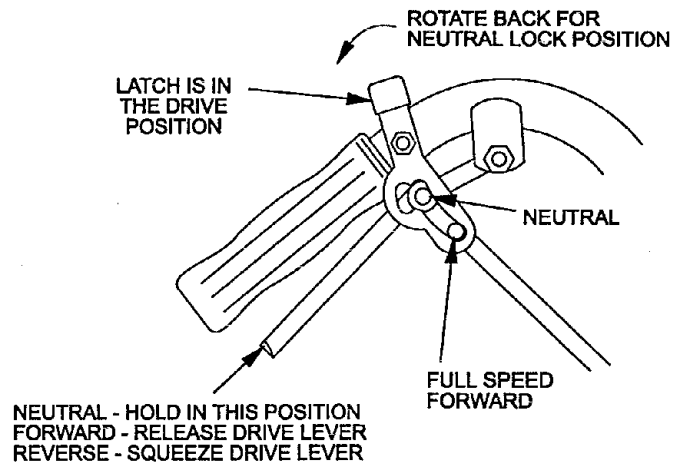

FIG. 8
- 4.1.3 Drive Levers: Located on each side of the upper handle assembly directly below the handle grips (See Figure 8). These levers individually control the speed and direction of each drive wheel. When the speed control lever is moved out of the neutral position and the neutral lock latches are moved into the drive position, as shown in Figure 8, and the drive levers are released, the drive wheels are engaged in the forward direction.
- 4.1.4 Neutral Lock Latch: Located directly above the drive levers. These latches allow the operator to lock the drive levers in a "neutral" position where neither of the drive wheels are engaged in either a forward or reverse direction (See Figure 8).
- 4.3.4 Drive Lever/Neutral Lock Latch Operation: To lock the drive levers in neutral, squeeze the drive levers back to the neutral position (**Do Not** squeeze the drive levers all the way back as this will cause the drive wheels to go into full reverse direction). Place thumbs on the upper portion of the neutral lock latches and move them to the rear. Release drive levers (See Figure 8).